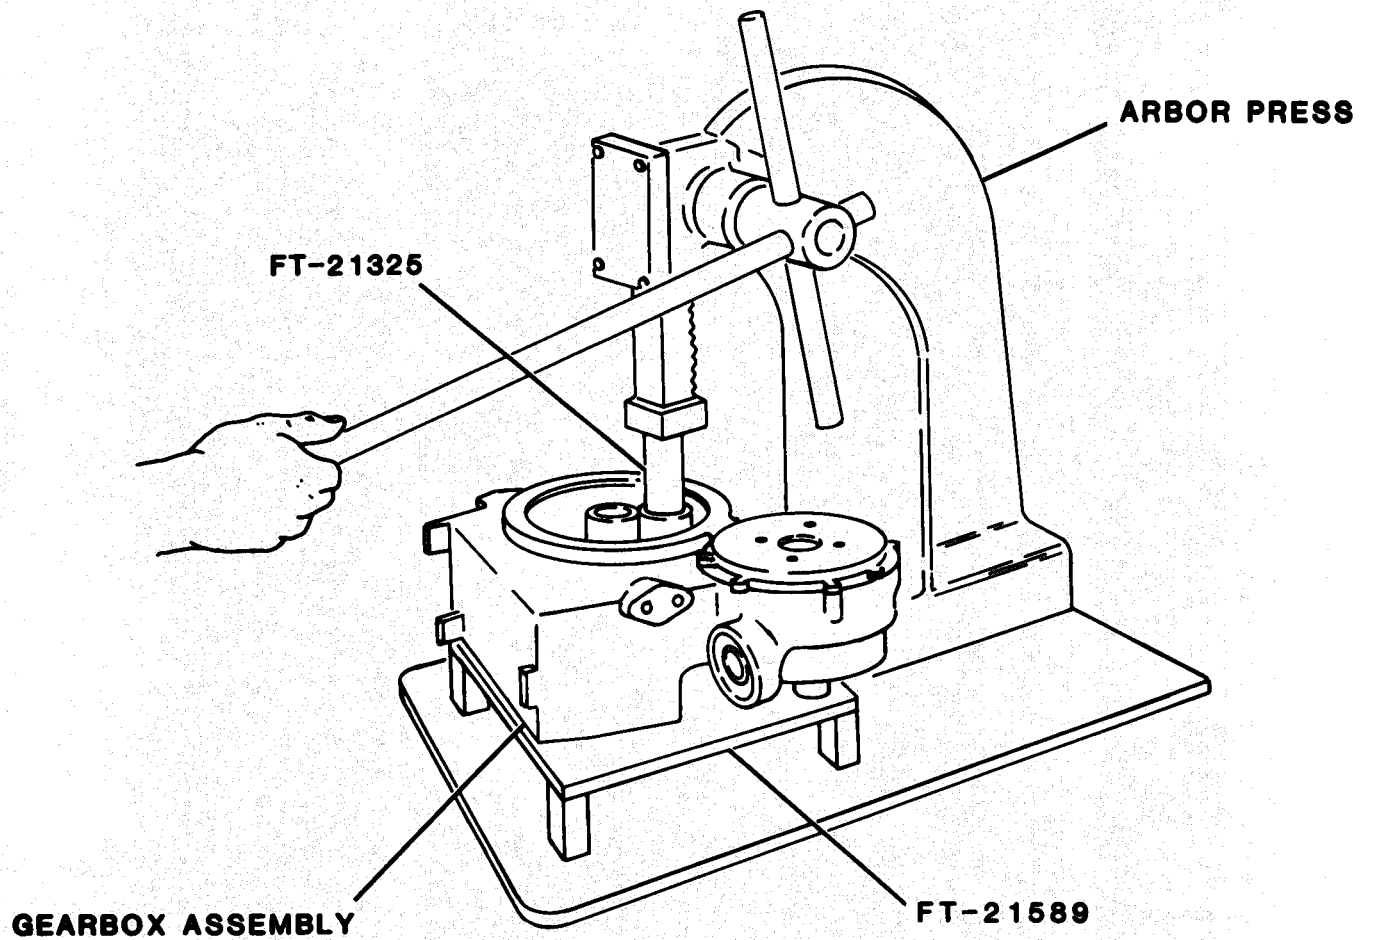

Figure 8-22. Removing Bearing and Output Spur Gear
(21) Place gearbox assembly on gearbox support base, fabricated tool FT-21589 Place gearbox assembly plus fixture on arbor press. Using bearing removal tool, fabricated tool FT-21325, press generator shouldered shaft (43) through bearing (46) and output spur gear (47) Remove assembly from arbor press See Figure 8-22.
(22) Remove bearing (48) from generator shouldered shaft (43) using bearing puller Discard bearing/
(23) Remove retaining ring (49) from generator shouldered shaft.
(24) Remove output spur gear (47) and bearing (46) from gearbox housing Discard bearing.
(25) Remove bolts (50) and washers (51) securing bearing retainer (52) to gearbox housing (59). Remove bearing retainer (52), pinion spur gear assembly (53), spring washer (54), and shim (55)
(26) Using puller set, remove bearings (56) and (57) from pinion spur gear (58) Discard bearings